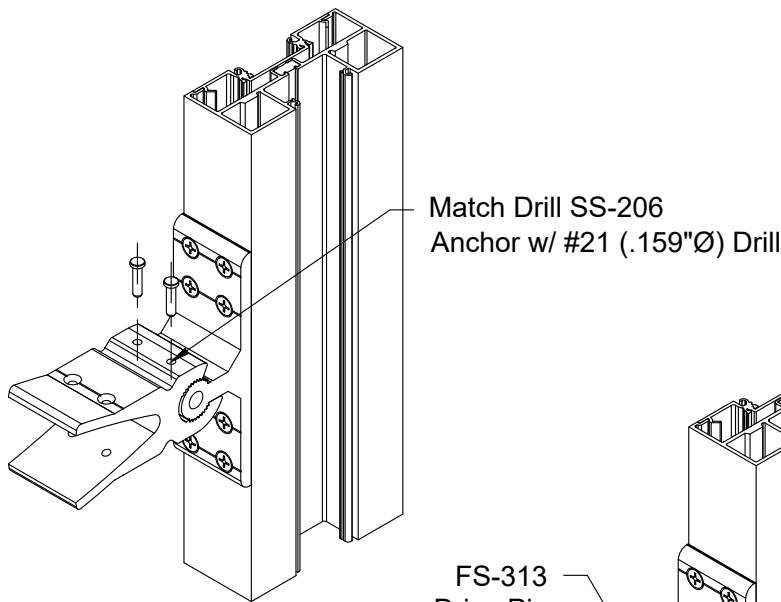

FIGURE 23
- 4) Slide SS-208-02 mounting arm over the previously installed SS-206-02 anchor. Match drill at least two holes through the SS-208 into the SS-206 using #21 (.159" Ø) drill. SEE FIGURE 23